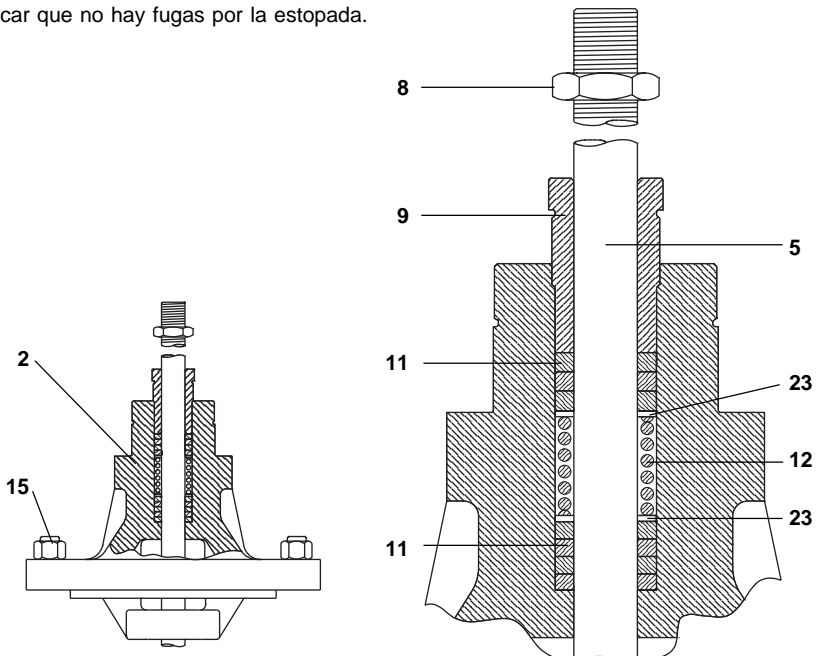

Fig. 4
4.2.3 Procedure for renewing the valve stem, plug and seats on mixing valves (Refer to Figures 4 and 7):